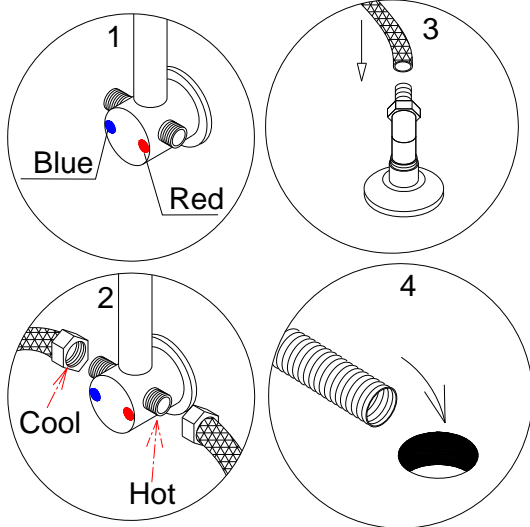
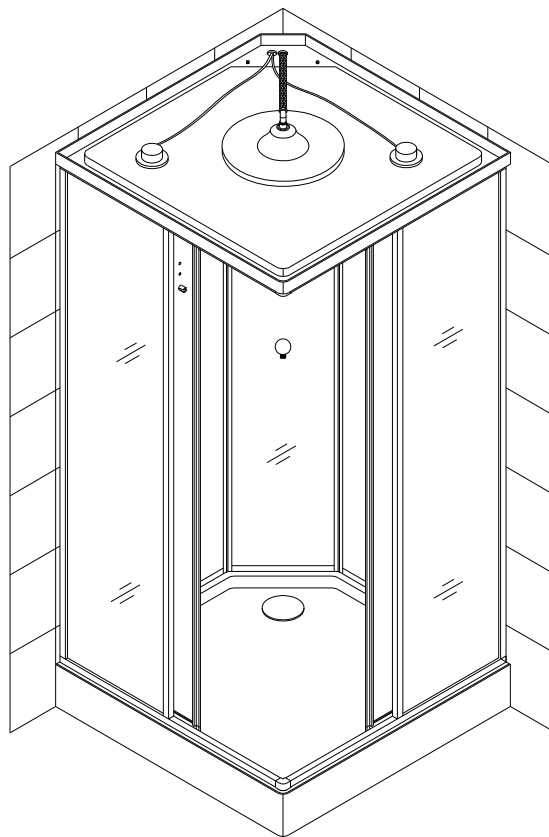

Fig 14
Fig 15
16. Do not move the cabin into the place until you check all the components for any leakage or problems; open each valve to see how it works, check thermostatic or mixer valve for hot and cold water. You may need to tight some connections (during storage and transportation connections may get loose). If you do not see any leakage, then you can move it to the permanent position and finish your project. See Fig 14 and Fig 15 for details.